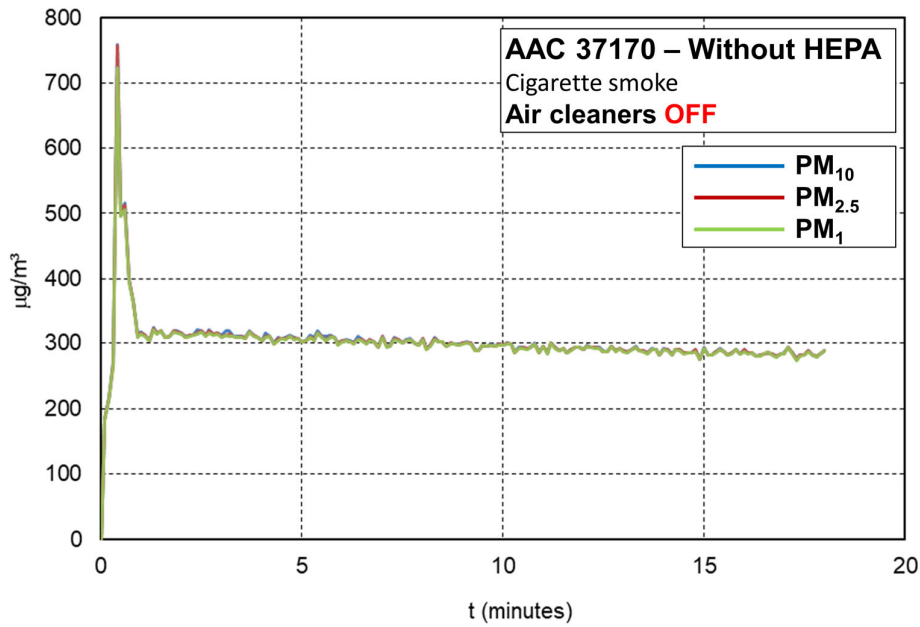
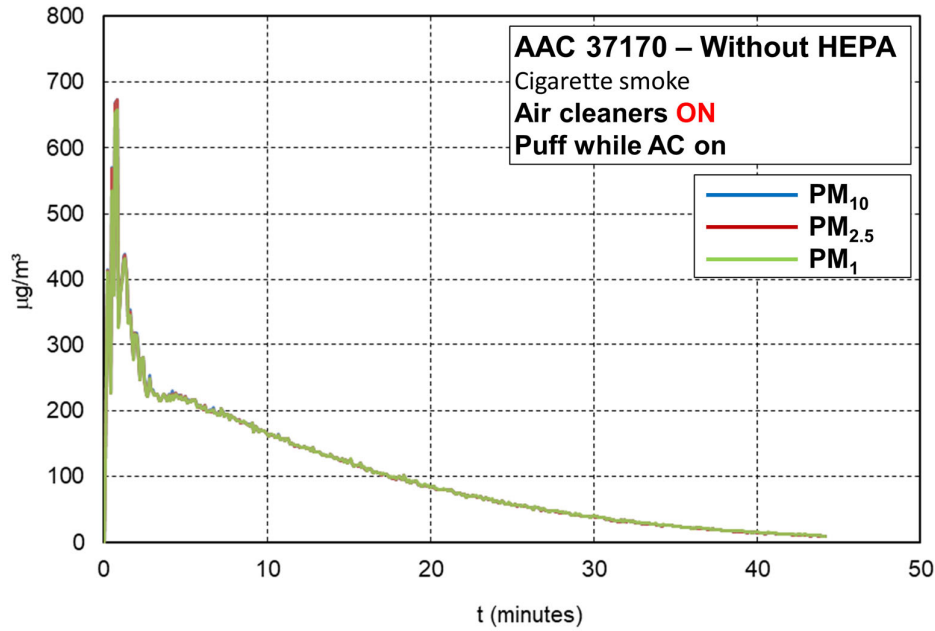

Figure 7: Concentrations for air cleaner off, room internal mixing on.
Figure 8: Concentrations for air cleaner (without HEPA) on, puff while air cleaner already on.
Figure 7 depicts the concentrations of PM₁₀, PM_{2.5} and PM₁ over time when the air cleaner is switched off. Two main observations are: (1) The cigarette smoke mainly produces PM₁. The fractions of aerosols with diameter higher than 1 µm is almost zero. (2) The concentration decay is very slow.
Figure 8 shows the concentration decays when the air cleaner is switched on. The puff is generated while the air cleaner is already on. The decay still goes rather slow but evidently much faster than in Figure 7 due to the action of the air cleaner.